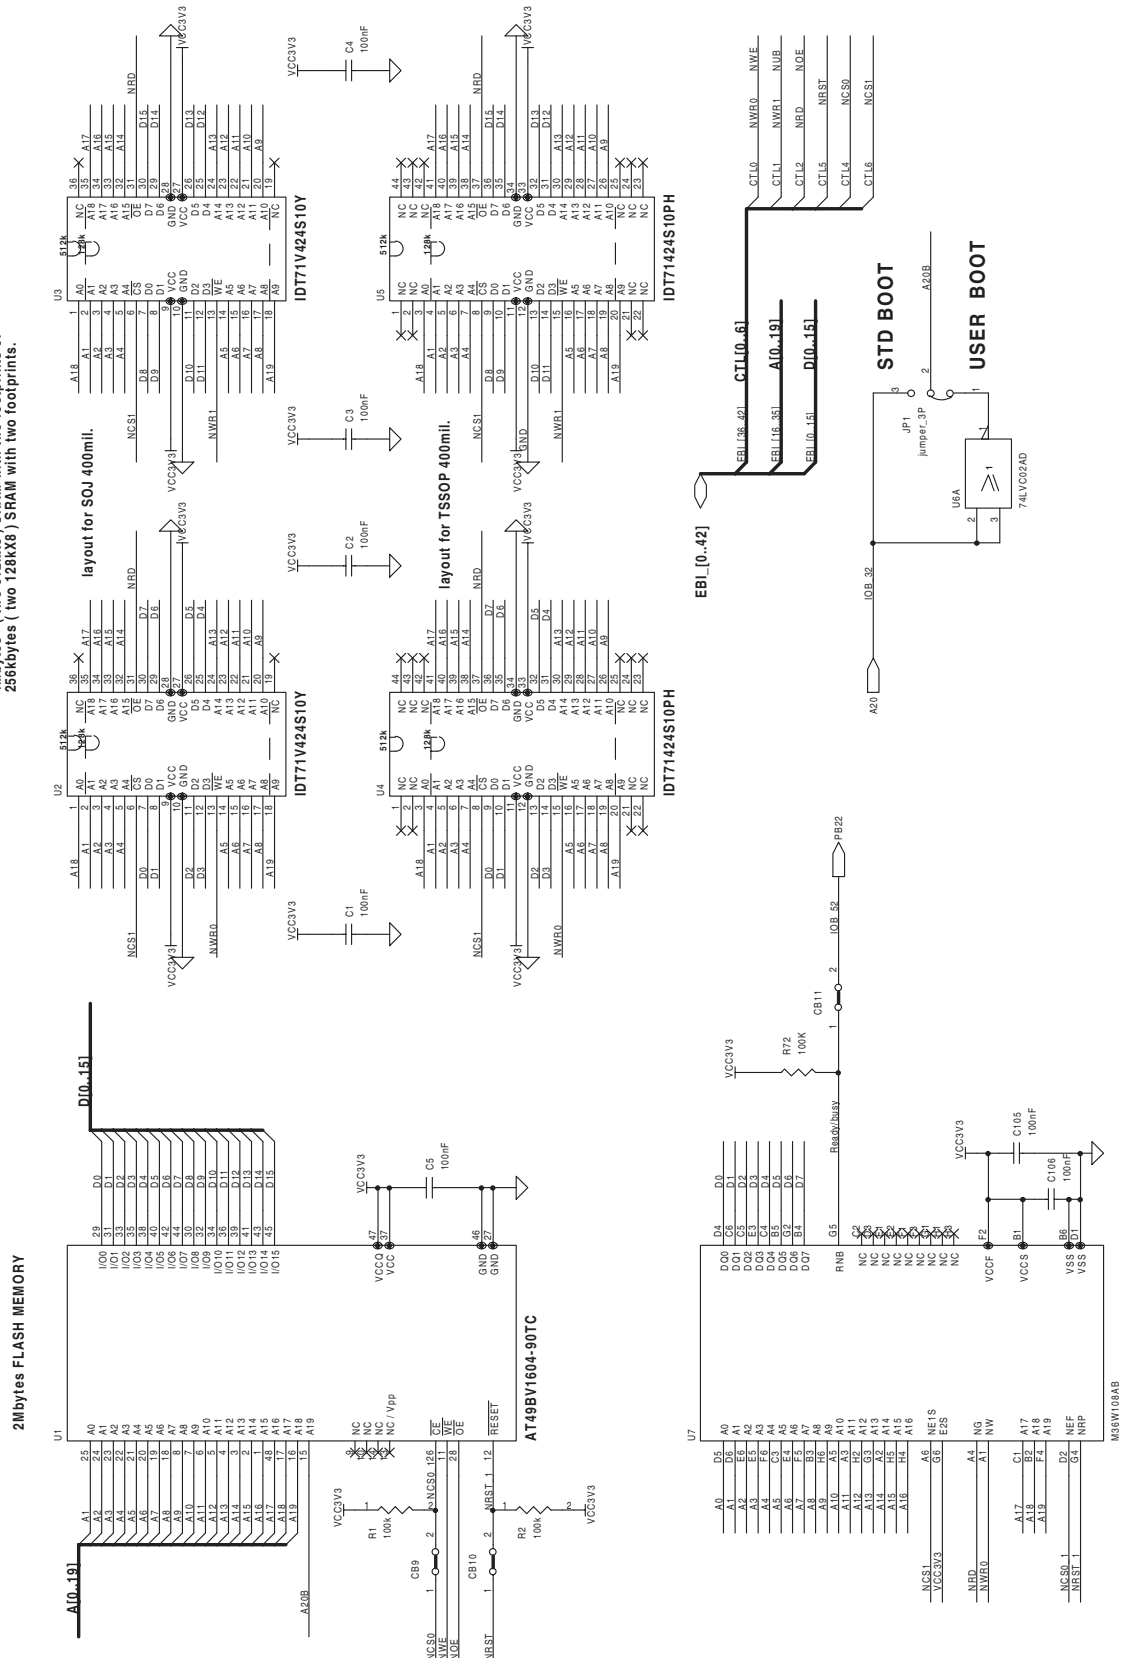

Figure 6-4. I/O and EBI Expansion Connectors
- Figure 6-4. I/O and EBI Expansion Connectors
- P1 = EBI Expansion Connector (Figure 6-4)
- P2 = I/O Expansion Connector (Figure 6-4)